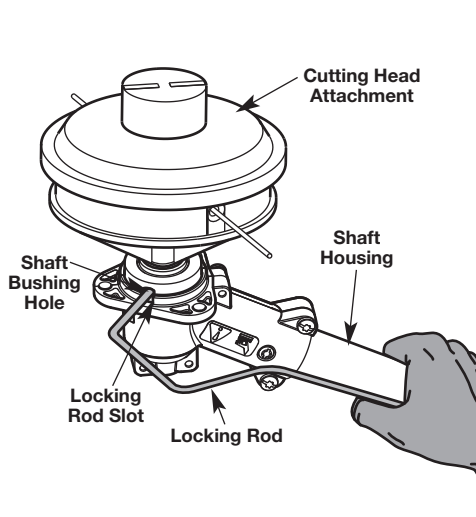

Fig. 16
3. While holding the locking rod, attach the cutting head to the output shaft by screwing it counter-clockwise until it is fully seated (Fig. 16).